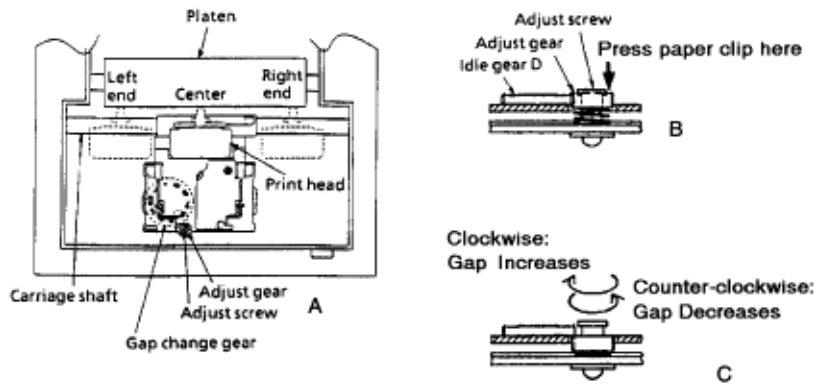

Figure 1
3. Use a large, straightened paper clip (Figure 1 B) to push down on the adjust gear. This will disengage the adjust gear from idle gear D.
4. Use a small phillips screwdriver to turn the adjust screw. (Figure 1 C)